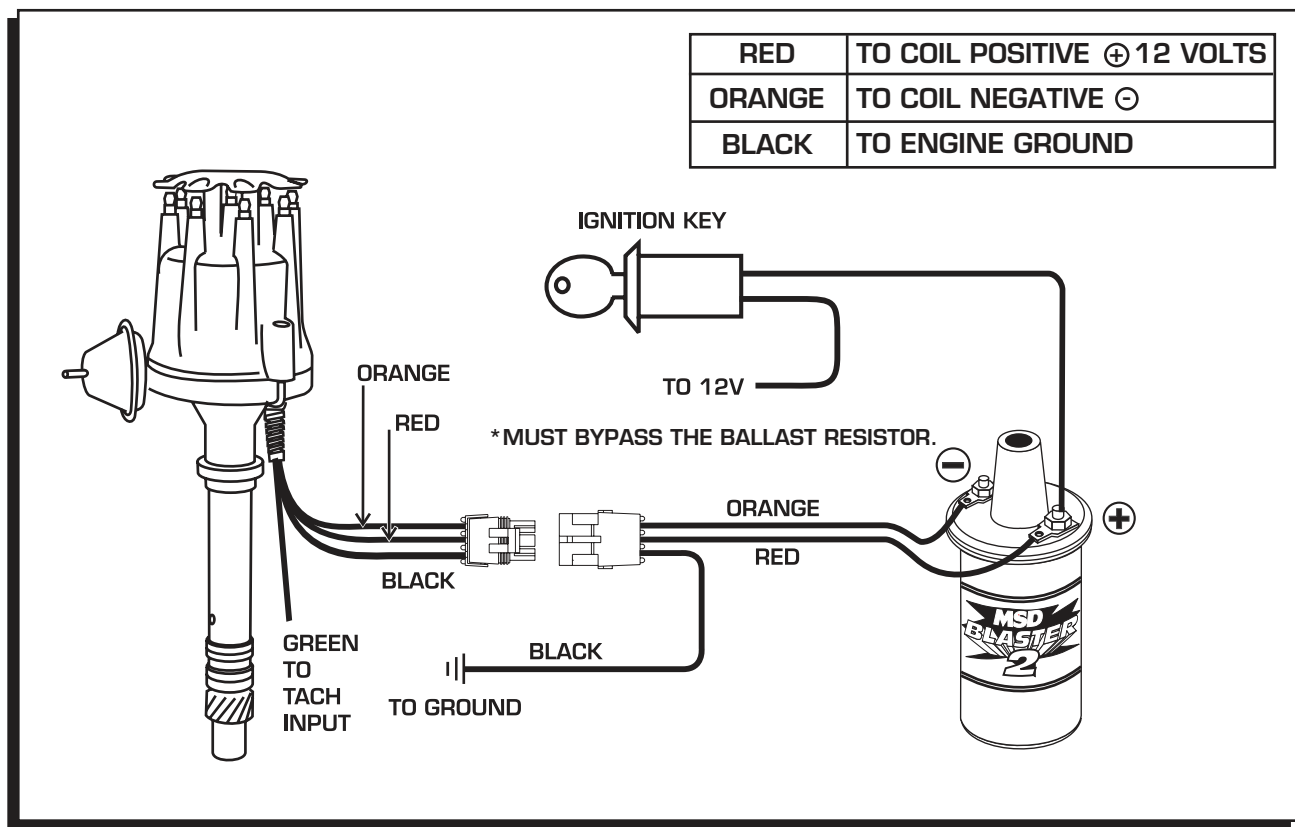

Figure 7 Wiring the Ready-to-Run Chevrolet Distributor.
11. Proceed to wiring the distributor as shown in Figures 7 and 8. Review the starting and tuning tips information and install the Timing Tape as shown on page 7 before starting the engine.